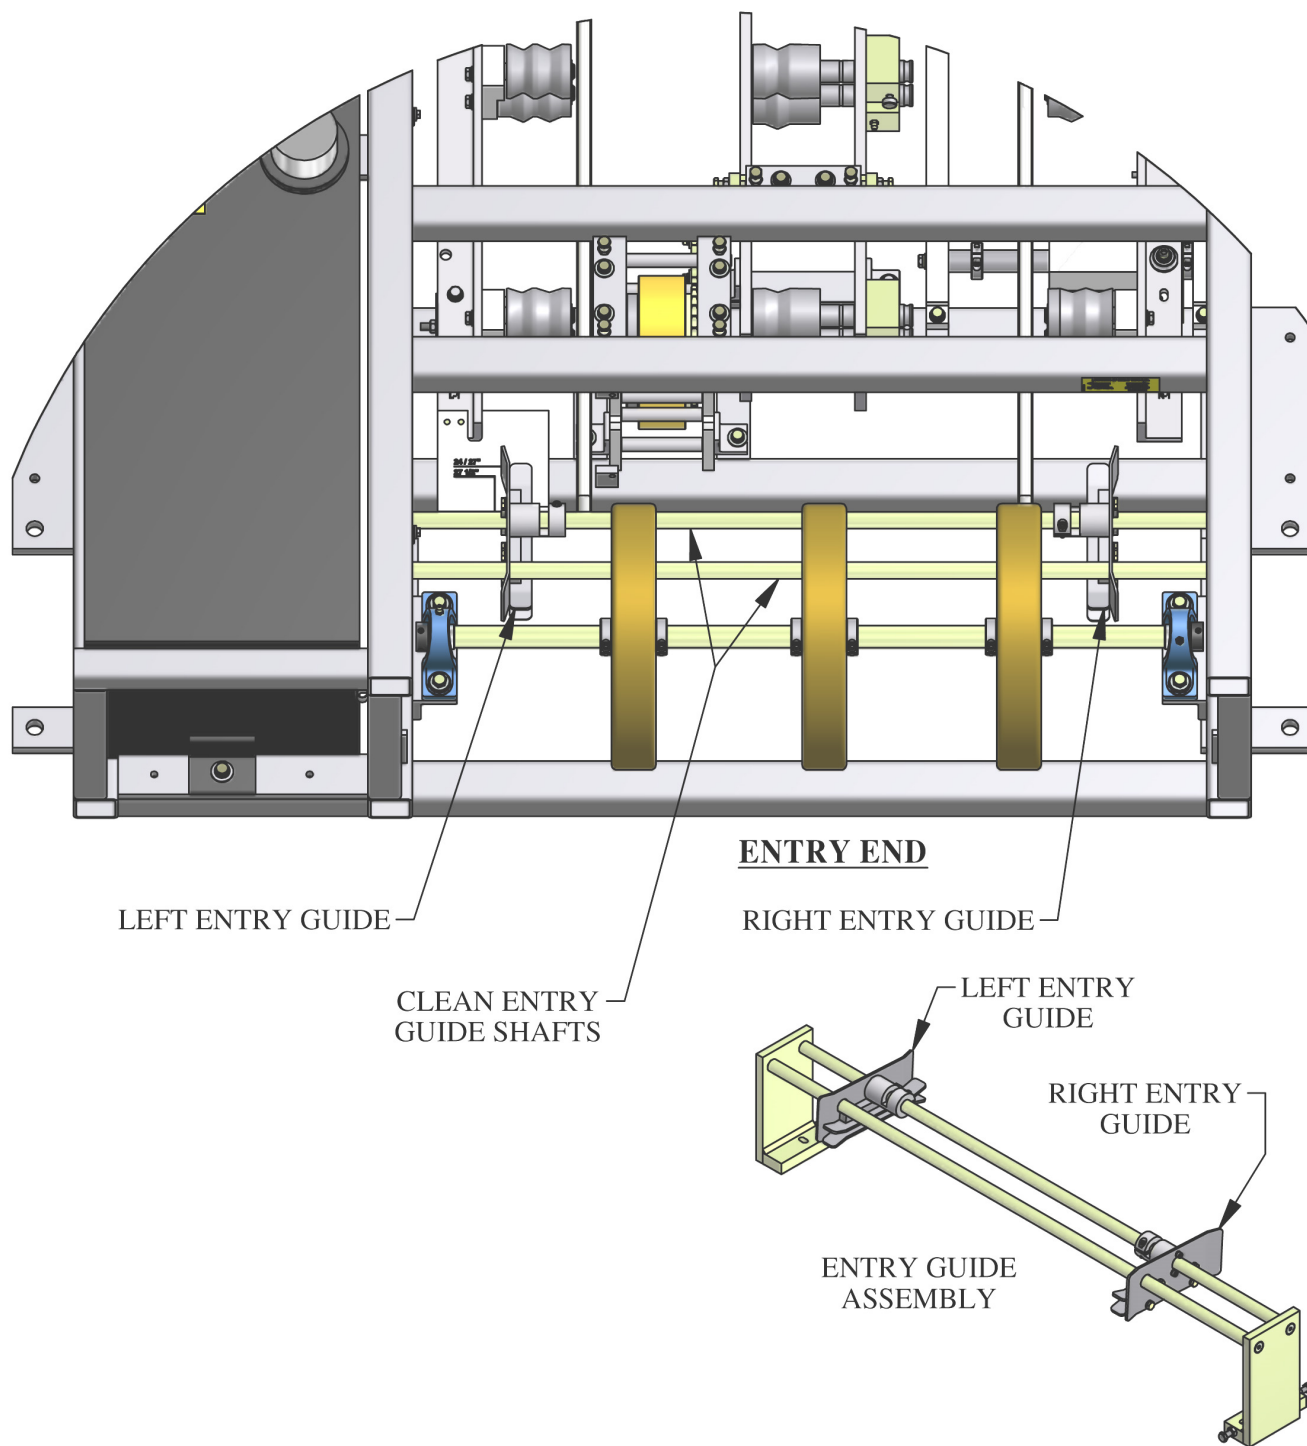

Figure 3: Clean Entry Guide
7. Keep Entry Guide Carriage clean (Figure 3 on page 7).